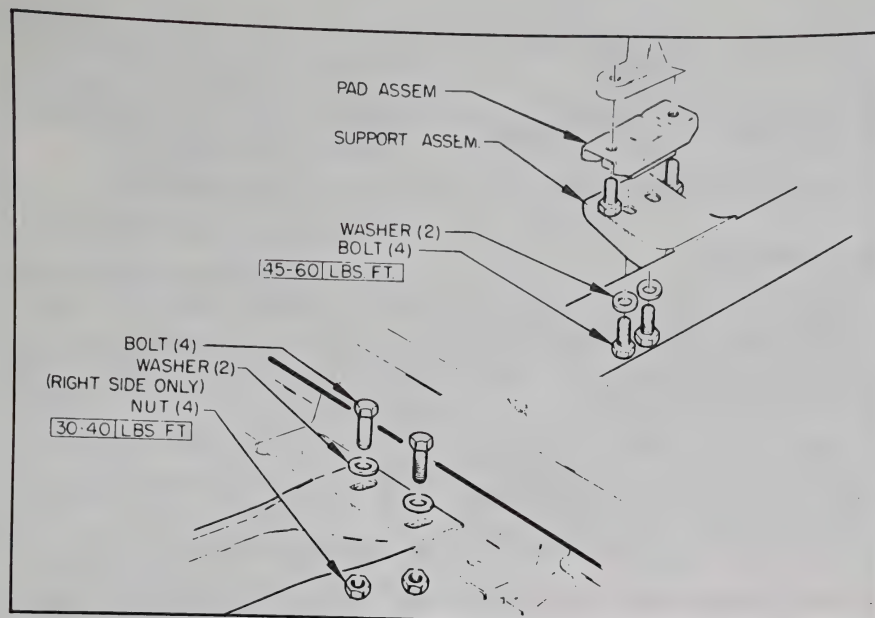

Figure 4-120—Four Speed Transmission Mounting
9. Remove two bolts attaching transmission mounting pad to transmission support. Leave mounting pad bolted to transmission. See Figure 4-120.